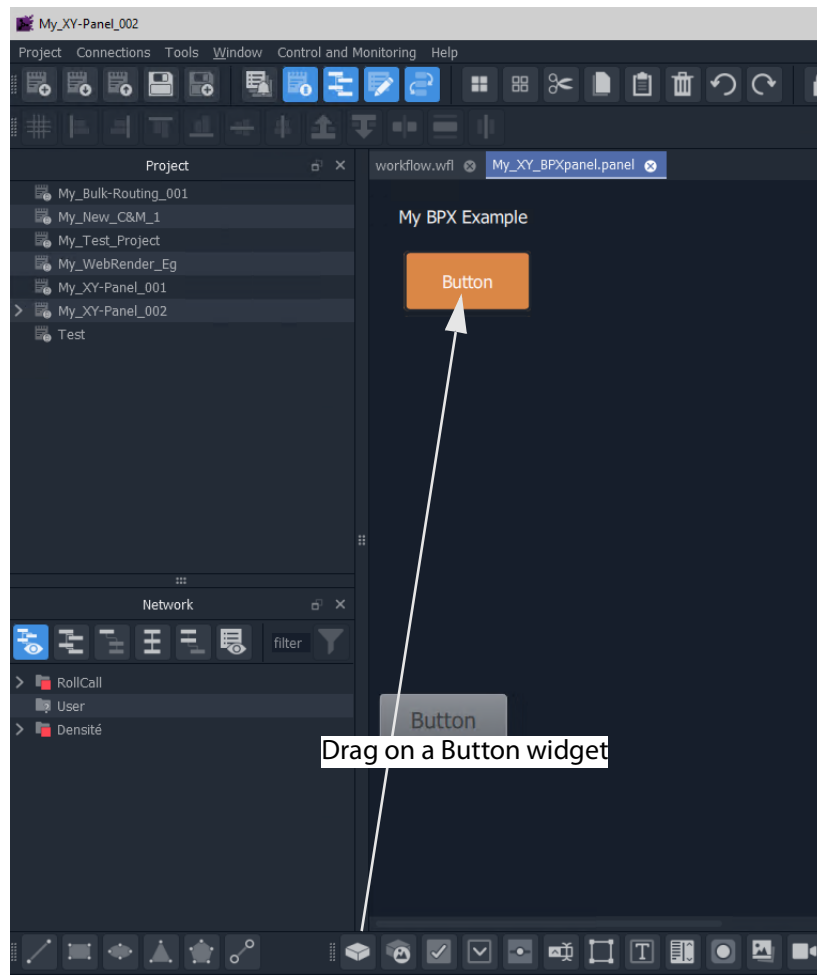

Fig. 12-49: Add a Button Widget
- 2 Add a graphical **Button** widget to the panel. (See Figure 12-49.)